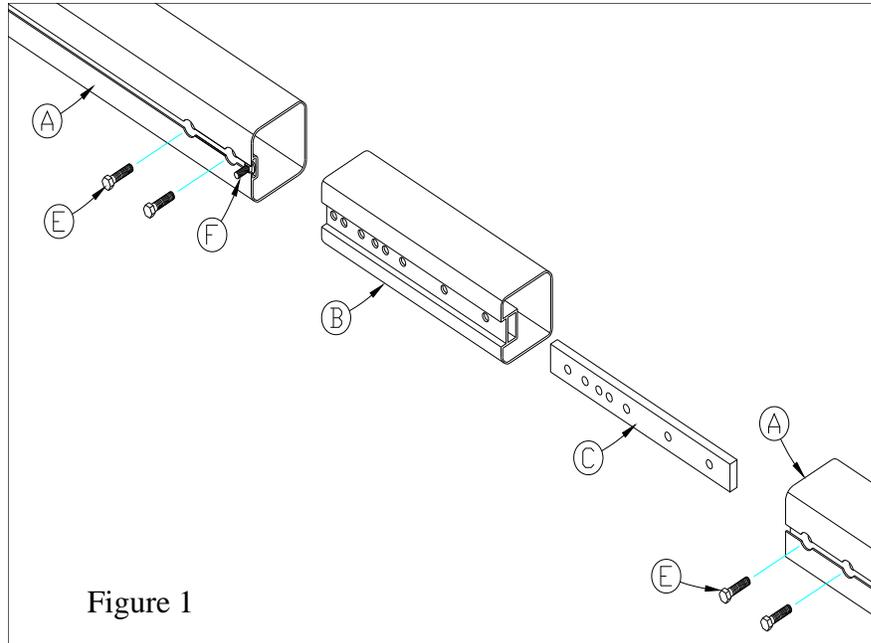
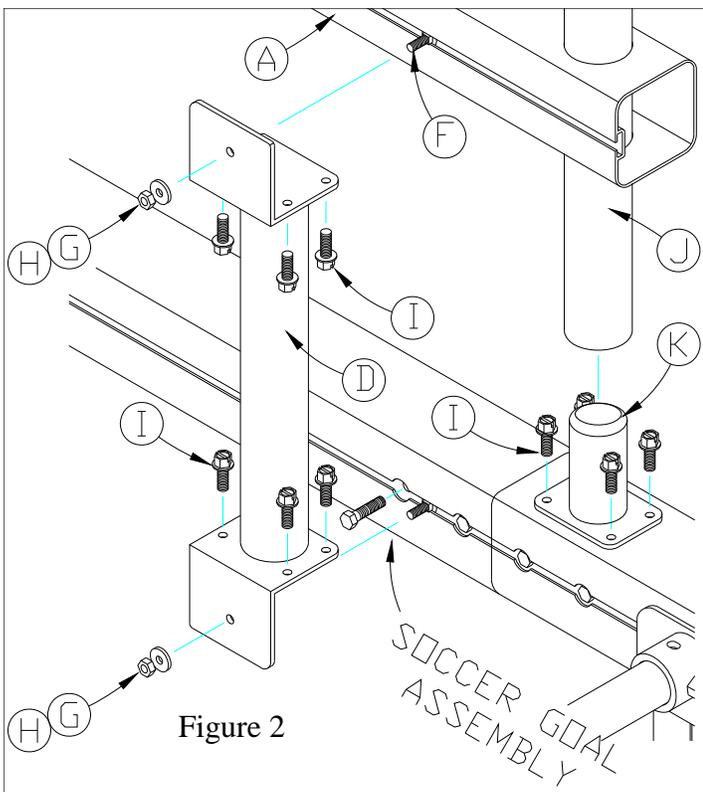

Figure 1
Figure 2
2. Unpack and lay out two *Crossbars* (A), one *Inner Tube* (B), and one *Connecting Bar* (C) on a flat surface. Slide the *Connecting Bar* (C) into the *Inner Tube* (B) through the channel so that all the holes are lined up. Insert the *Inner Tube* (B) into one of the *Crossbars* (A) leaving half of the *Inner Tube* (B) exposed. Install two *3/8" x 1" Hex Bolts* (E) loosely. Insert another *Crossbar* (A) onto the exposed half of the *Inner Tube* (B). In the farthest exposed hole loosely install one *3/8" x 1" Hex Bolt* (E). See Figure 1.
3. Insert the head of a *5/16" x 1" Carriage Bolt* (F) into the net attachment track and slide over the joint where the *Crossbars* (A) meet. Install the *3/8" x 1" Hex Bolt* (E) and tighten all *3/8" x 1" Hex Bolts* (E). See Figure 1.
4. From each end of the *Crossbar* (A) insert and slide the head of a *5/16" x 1" Carriage Bolts* (F) approximately 17-5/16" from the end.
5. Lay the soccer goal assembly down in position directly below the *Crossbar* (A) with the net attachment track facing upward. On the soccer goal temporarily remove one of the *3/8" x 1" Hex Bolts* (E). Insert the heads of three *5/16" x 1" Carriage Bolts* (F). Slide the *5/16" x 1" Carriage Bolts* (F) approximately 21-5/16" in measuring from the outside of the soccer goals upright. The middle one should be centered. Reinstall and tighten the *3/8" x 1" Hex Bolt* (E) in the soccer goals crossbar. See Figure 2.
6. Place the *Football Crossbar Support Brackets* (D) over the *5/16" x 1" Carriage Bolts* (F). Using the *5/16" Flat Washer* (G), and *5/16" Nylon Lock Nuts* (H) tighten the *Football Crossbar Support Brackets* (D) to the crossbars.
7. Using the pilot holes provided in the *Football Crossbar Support Brackets* (D) drill a *5/16"* hole through the bottom of the *Football Crossbar Support Brackets* (D) and through one wall of the crossbars. Using the *3/8" x 1" Thread Cutting Hex Bolts* (I) to fasten the *Football Crossbar Support Brackets* (D) to the upper and lower crossbars (48 places). **NOTICE!** Use care when tightening the *3/8" x 1" Thread Cutting Hex Bolts* (I). **Do not over tighten!** See Figures 2 and 3.
8. Continue to follow soccer instructions. Once assembled and in the upright playing position, insert the 10' Uprights (J) into the outside holes of the Crossbar (A) for high school and use the inside holes for college or rugby, once through the Crossbar (A) insert the Upright Support (K) into the bottom of the Uprights (J). Making sure the Uprights (J) are square and plumb with rest of the goal, mark and drill, using the pilot holes provided on the Upright Supports (K), a 5/16" hole through the Upright Support (K) and through the top of the soccer crossbar. Using the 3/8" x 1" Thread Cutting Hex Bolts (I) to fasten the Upright Supports (K) to the top of the soccer crossbar. See Figures 2, 3, & 4.
1. Slide the *Connecting Bar* (D) into the *Inner Tube* (C) through the channel so that all the holes are lined up as shown. Assemble the *Corners* (I) by inserting the inner tube assembly leaving six holes exposed for Crossbar/Upright attachment. Install four 3/8" *Hex Bolts* (E) per *Corner* (I) . See Figure 1.
2. Lay *Uprights* (B) and *Crossbar* (A) flat on the ground with net attachment tracks facing upward.
3. Attach *Crossbar* (A) to the two corner assemblies, from #1 above, by sliding *Crossbar* (A) onto the *Inner Tube* (C) and installing two 3/8" *Hex Bolts* (E) per end. **If you wish to assemble the goal wider to accommodate Soccer Padding**, slide one of the four *Goal Width Spacers* (O) onto the *Inner Tube* (C) at one end only prior to attaching the *Crossbar* (A). If you're adding a 1" thick pad you should use the 2" wide *Goal Width Spacer* (O), and use the 1 1/4" wide *Goal Width Spacer* (O) with padding 5/8" thick. This will maintain the official width with padding installed. See Figures 1 and 4.
4. Slide *Uprights* (B) onto corner assembly *Inner Tube* (C) and install two 3/8" *Hex Bolts* (E) per *Upright* (B).
12. Connect a "*T*" *Connector* (H) to each end of the *Backstay Spreader Tube* (L) using the 5/16" x 2 3/4" *Hex Bolt* (F) and 5/16" *Locknut* (G). **See Figure 2.**
13. Attach the assembly in 12 above to the bottom of the *Bent Backstay Tube* (K) using the 5/16" *U-Bolts* (S) and the 5/16" *Locknuts* (G). **See Figure 2.**
14. Tighten the 5/16" *U-Bolts* (S) with the *Backstay Spreader Tube* (L) as far to the rear as possible unless you are leaving clearance to have the soccer goal be positioned under a football goalpost.
15. If not already installed attach *Front Soccer Warning Label* (SCPA#1) (M) to the face of each *Crossbar* (A). Install one *Rear Soccer Warning Label* (SCPA#2) (N) to each tubular backstay at eye level. Replacement warning labels are available without cost by calling Customer Service at 1-800-247-7668.
16. Install *Net Attachment Clips* (R) into the slots in each *Upright* (B), and each *Crossbar* (A). The *Net Attachment Clips* (R) slip into the slot and twist 90° into position with the opening to the outside of the goal. You have been provided enough net attachment clips to position one every 12"-14" and still have extras depending on the size of your goal.
17. Drape the net over the *Bent Backstay Tubes* (K) and attach to the *Net Attachment Clips* (R) on the rear face of the goal. Position clips to suit. A rope is woven into the net behind the top front to attach to the left hand and right hand backstays to help support the net. Use roll of *Hook and Loop Net Fastening Strap* (P) to attach the bottom of the net to the lower backstay tubes. If desired cut to length as needed.
18. When the goal is positioned for play, the rear bottom edge of the net can be staked to the ground using the *Net Ground Stakes* (Q).
19. If your goals include the No-Tip feature use the *Net Retainer Hooks* (W) to keep the net away from the ballast drums during transport.